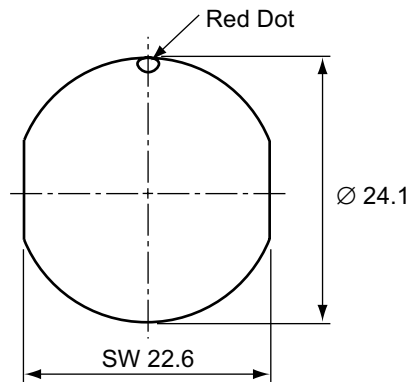

Figure 2-2. Panel Cut-out Dimensions
2. If you are using an equipment cabinet, the adapter cable connector can be bulkhead-mounted to the inside wall. See Figure 2-2 on page 12 for the dimensions of the cut-out hole.